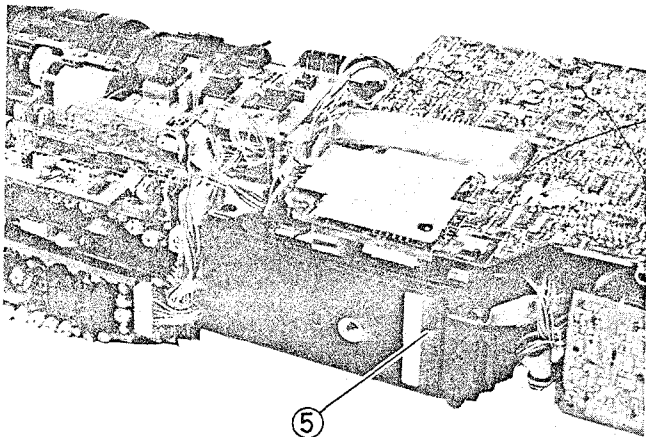

Fig. 2-46 Cassette Loading Mechanism Removal
5. Remove two (2) screws holding the camera section and VTR section. (See Figs. 2-46, 2-47)
2. Remove two (2) screws holding the camera section and VTR section. (See Figs. 2-46, 2-47)